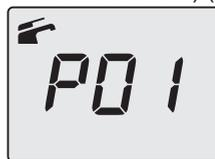

Fig. 8.34
- Press the 14 key for 1 second (Fig. 8.30) to enter the selected parameter. The display will show the following (13=M300V.2025 SM, 14=M300V.2530 SM or 15=M300V.3035 SM) (Fig. 8.34).